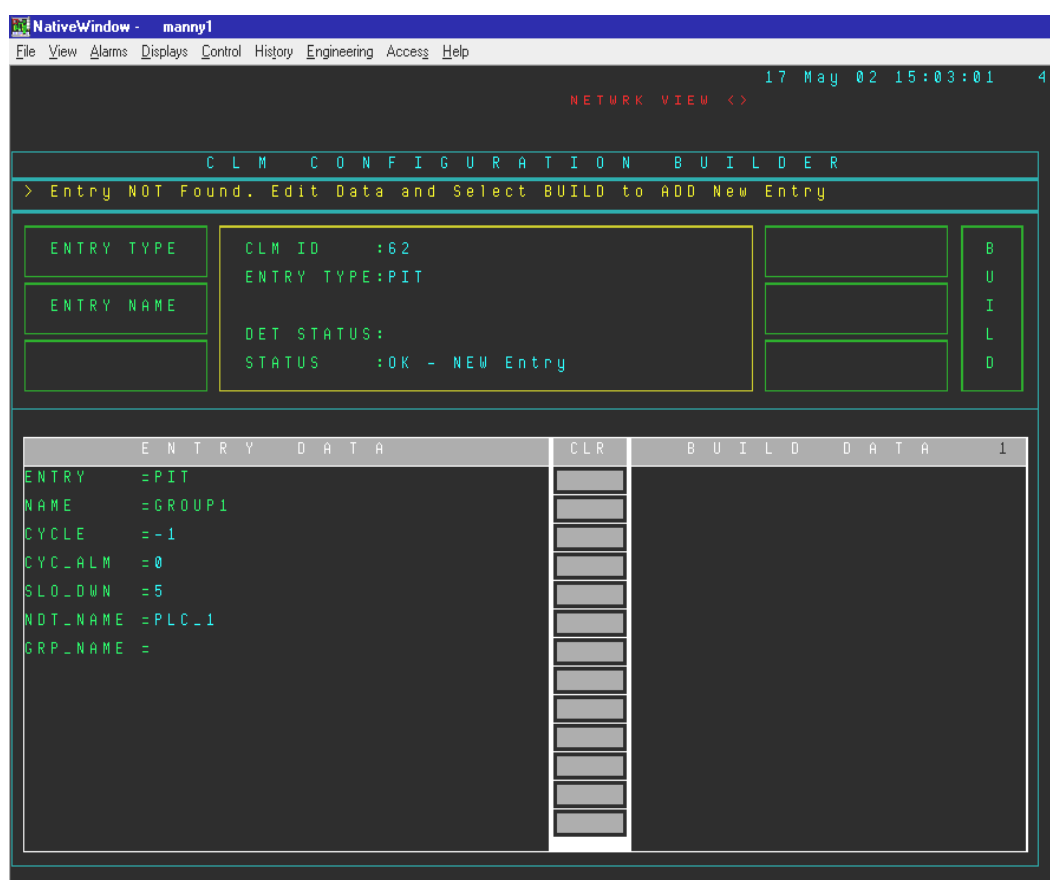

Figure 3.5-1 CLM Configuration Builder – OPC Group (PIT) Example
3.5.6	Using the field definitions from the previous Table 3.5-1, enter the appropriate user values into the Builder entries. The display should now look similar to the Figure 3.5-1.